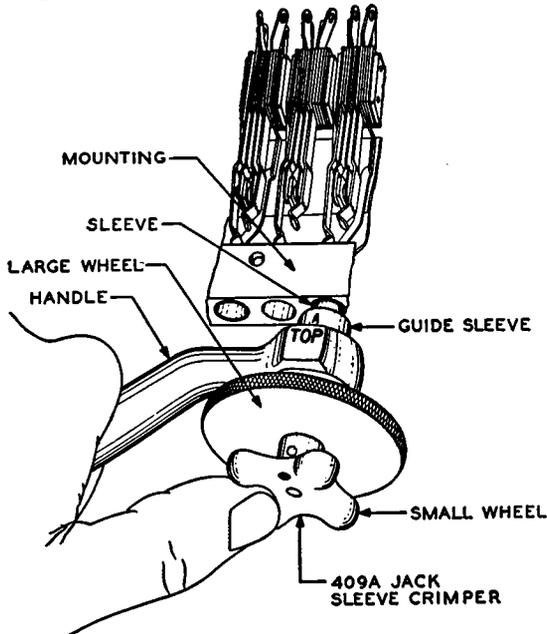

Fig. 10—Method of Crimping Sleeve Terminal with 409A Jack Sleeve Crimper
3.17 Hold the No. 409A jack sleeve crimper by the handle in the left hand so that the marking "top" is up. If the sleeve to be crimped is of the 141 or similar jack in a 1/2-inch thick mounting, set the guide sleeve of the 409A jack sleeve crimper in the position so that the letter "A" is on top as shown in Fig. 10. If the sleeve to be crimped is of the 141 or similar jack in a 11/16-inch thick mounting, set the guide sleeve in the position so that the letter "C" is on top. If the sleeve to be crimped is of the 49-type jack, set the guide sleeve in the position so that the letter "B" is on top. The adjustment of the crimper is controlled by loosening the clamping screw on the handle, sliding the guiding sleeve forward, turning it to the desired position, sliding it backward, and tightening the clamping screw.
3.18 While still holding the crimper in the left hand turn the small wheel in a clockwise direction until it is screwed against the large wheel with the knurled edge. Turn both wheels together until the black dot on the small wheel is at the top if the guiding sleeve is in position A, at the bottom if the guiding sleeve is in position C, or at the left side if the guiding sleeve is in position B. Hold the small wheel from turning out of this position with the thumb of the left hand as shown in Fig. 10.
3.19 Insert the crimper in the replaced sleeve pressing it firmly against the face of the mounting as shown in Fig. 10. Turn the small wheel 180 degrees bringing the dot opposite its former position. While holding the small wheel firmly with the thumb of the left hand to prevent its turning, turn the large knurled edge wheel with the right hand in a clockwise direction as far as possible without excessive forcing. This crimps the sleeve terminal at its junction with the sleeve. After this crimping operation, turn the large wheel 1 or 2 turns in a counterclockwise direction and then turn the small wheel through 180 degrees bringing it back to its former position. Withdraw the crimper from the mounting.